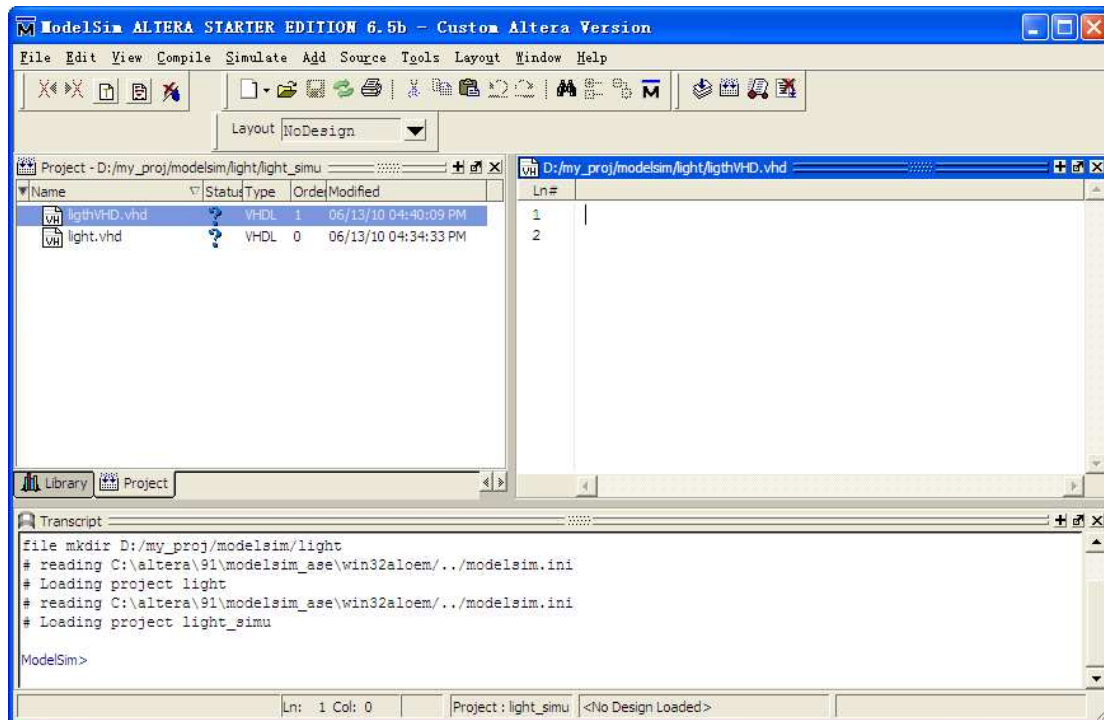

Figure 36.Edit new Files
7. Then, the Project option will appear in the Workspace window, which includes lightVHD.vhd. There is also a question mark in Status bar which indicates the document has not been compiled. Double click this file to get the edit window (Figure 36 in which we input our design files as follows: